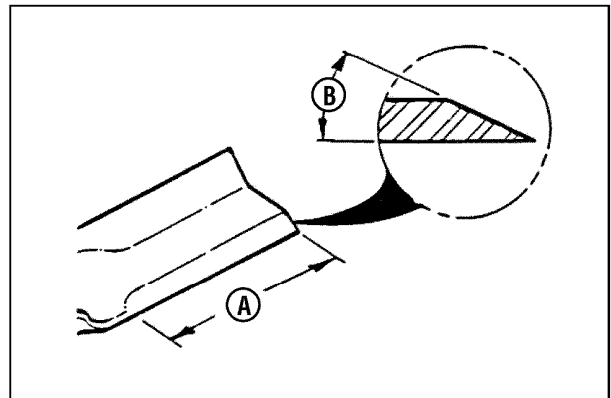

Figure 44: Sharpening the mower blade
6. If the blade is in good condition, sharpen at 22 to 28 degrees (B, Figure 44). DO NOT sharpen beyond existing cutting edge (A).